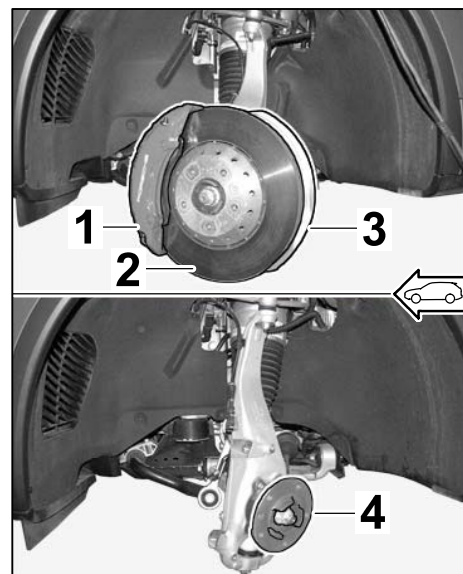

Figure 5
2.1.1 Remove front brake caliper (left ⇒ *Figure 5 -1-/right*) ( ⇒ *Workshop Manual '473919 Removing and installing front brake calliper*).
2.1.2 Remove front brake disc (left ⇒ *Figure 5 -2-/right*) ( ⇒ *Workshop Manual '465019 Removing and installing front brake disc*).
2.1.3 Remove cover plate on front brake disc (left ⇒ *Figure 5 -3-/right*).
2.1.4 Clean the levelling and centring surfaces on the wheel hubs (⇒ *Figure 5 -4-*). Apply a very thin coat of Optimoly TA to the centering surfaces.